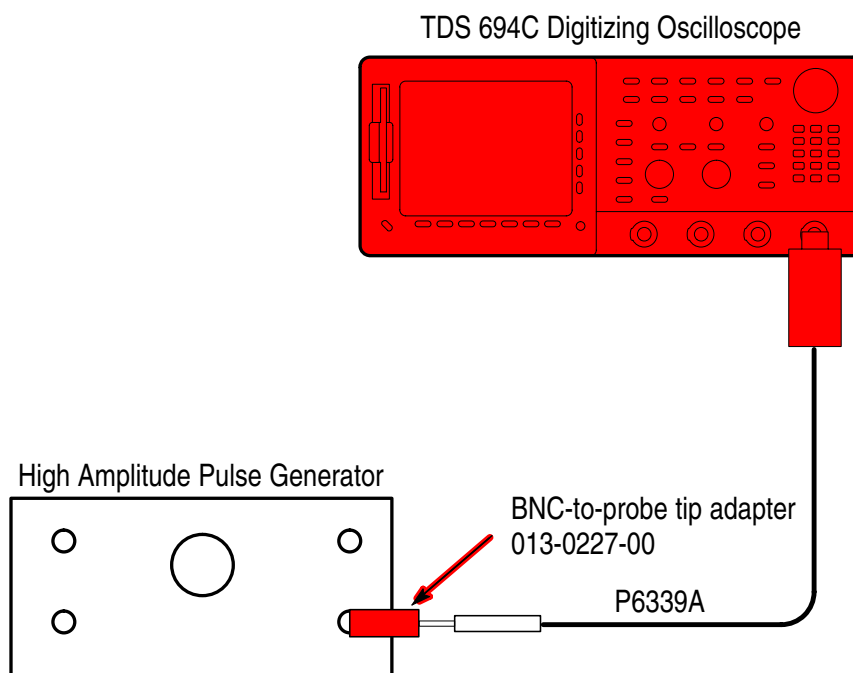

Figure 10: Setup for rise time and aberrations
1. Set up the equipment as shown in Figure 10.